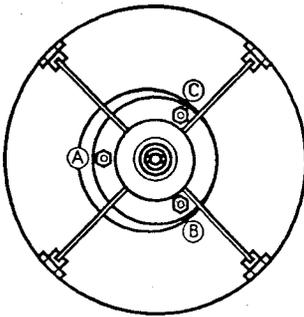

Fig.22
3) Bring the center of the 50.8 adapter at the cross, adjusting the push screws of the diagonal mirror. When the A screw shown in the fig.22 is screwed in, the 50.8 adapter will be moved to the cross as shown in the fig.(b) to (c). In the fig.(c)-1 the center of the 50.8 adapter is positioned at the cross, but the mark on the diagonal mirror will be at the upper left. Now the diagonal mirror must be moved toward the primary mirror and be faced downward.